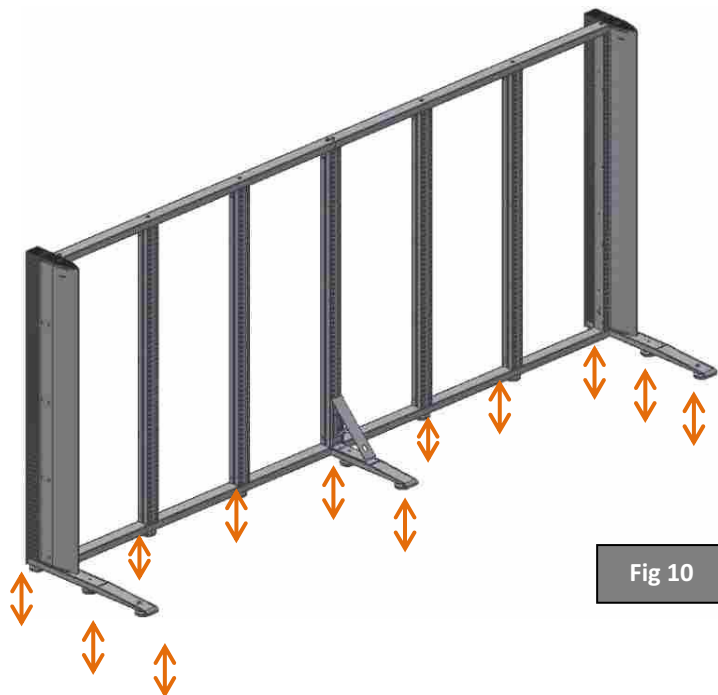

Fig 10
STEP 7 – Adjust the **structure** to the floor using all the **levellers** (Fig.10)